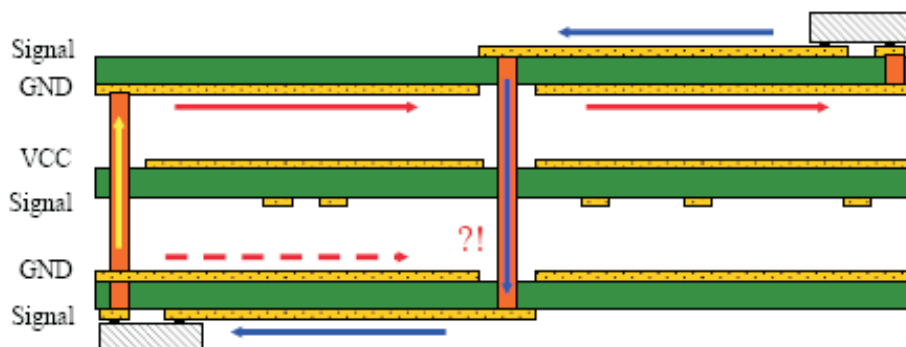

Figure 14. Loop Areas Caused by Poor Via Placement
Figure 14 illustrates another problem with vias – loop areas. The designer has to make sure that the return current can flow ideally underneath (beside) the signal trace. A good way to realize this is to add some ground vias around the signal via. This is a similar structure to a coaxial line. Take care if the new layer has another distance to the reference plane; this can cause reflections due to an impedance change.
- Be careful with the return current when changing the layers. Use ground vias around the signal via to make sure that the return current can flow as close as possible to the signal (see Figure 14).